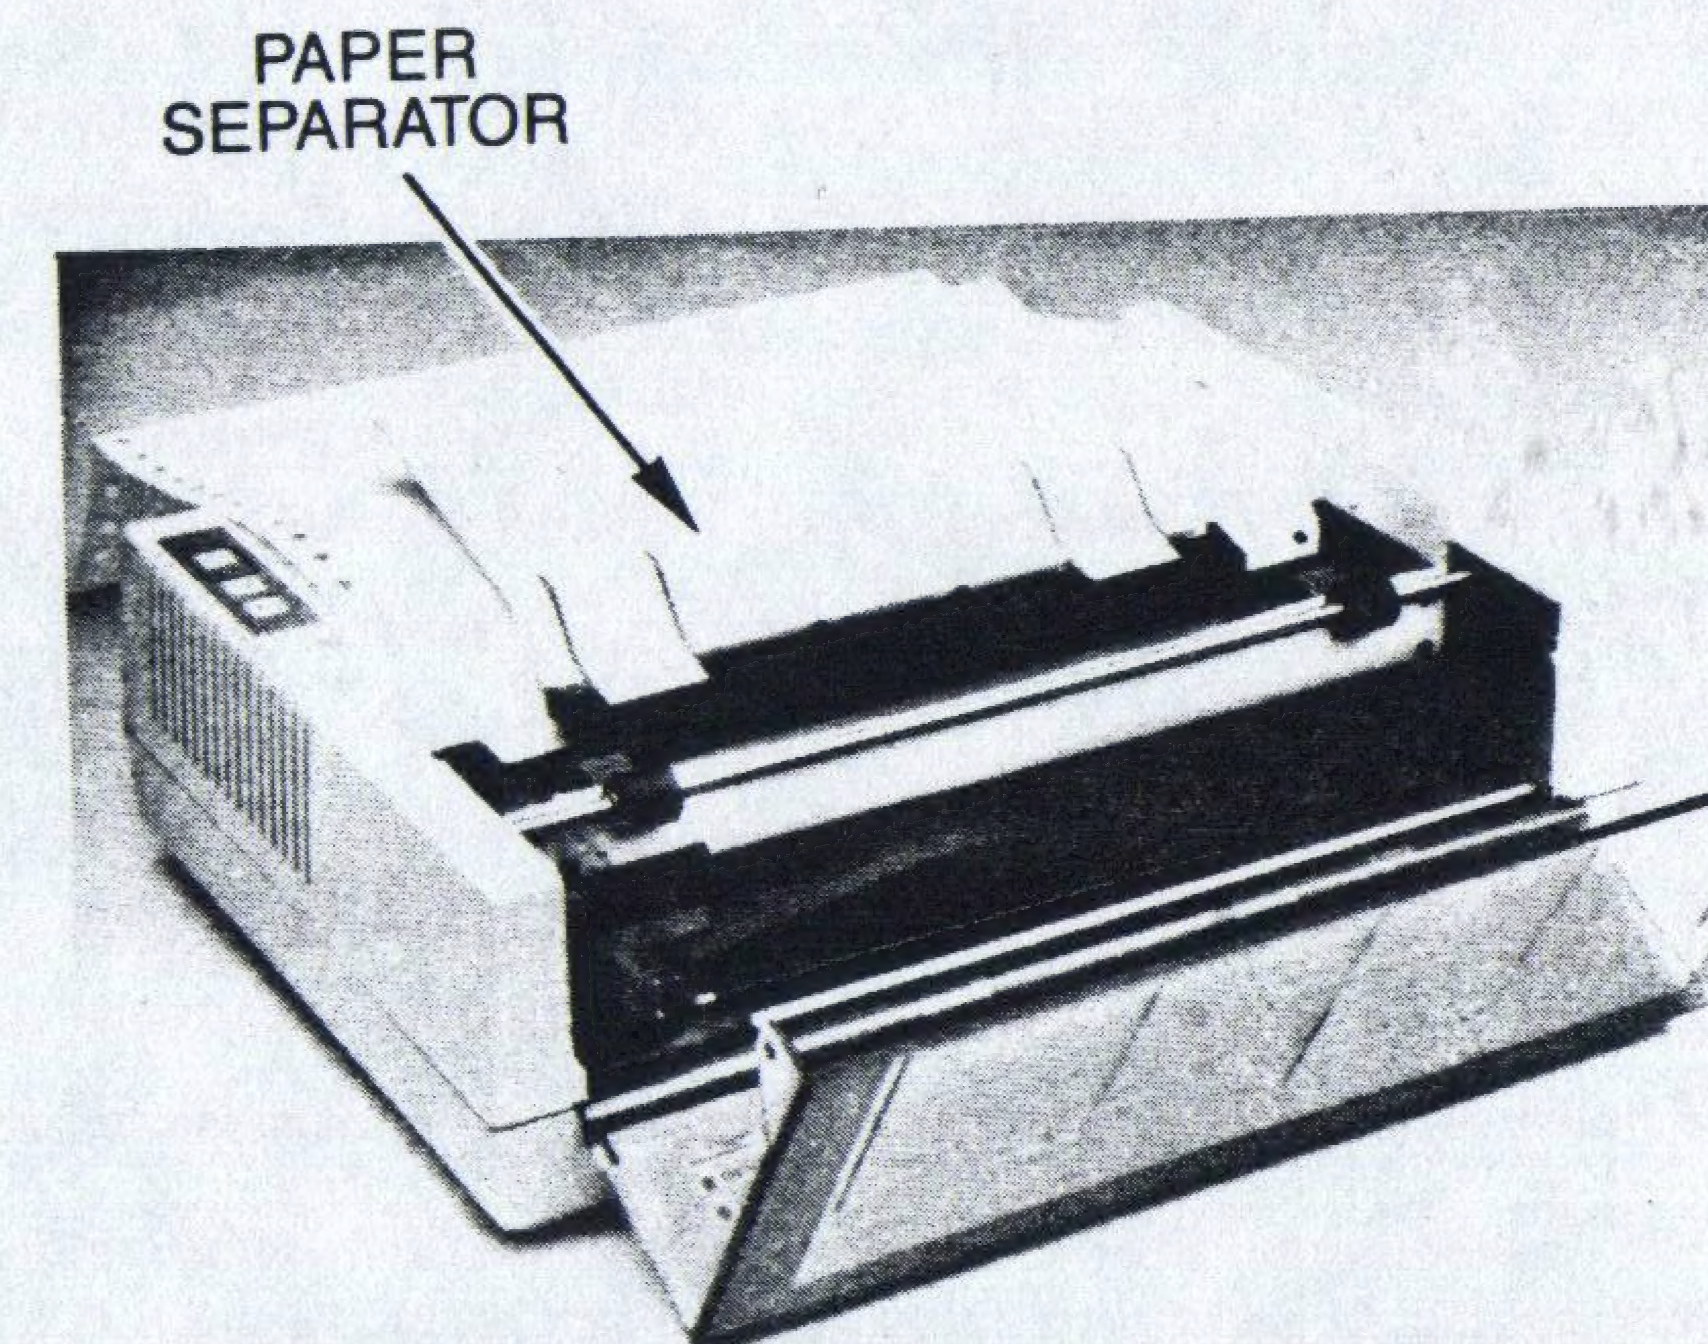

Figure 1-9 Paper Separator Operating Position
- Lower the paper separator to the operating position as shown in Figure 1-9.